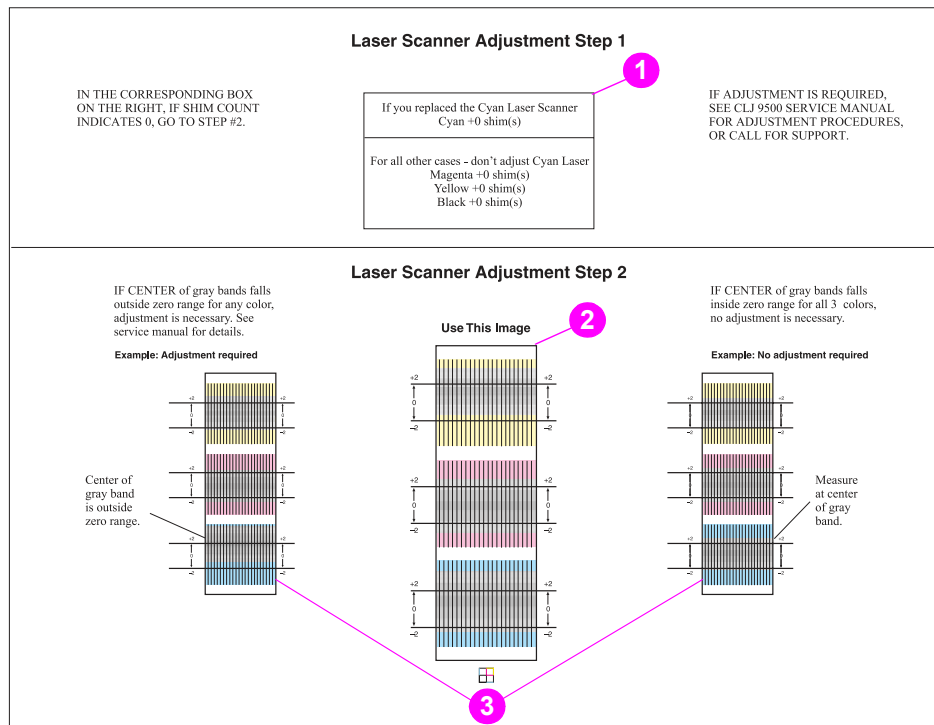

Figure 127. Reading the laser/scanner adjustment page
- 1 Look at the laser/scanner adjustment page. If the numbers under the *Laser/Scanner Adjustment Step 1* are all zeros (callout 1; figure 127) and the center of the three gray bands under the *Laser Scanner Adjustment Step 2* are inside of the zero range for all three colors (callout 2; figure 127), then no adjustment is required and this procedure is complete.
The laser/scanner adjustment page has examples to help interpret the position of the gray bands (callout 3; figure 127). An example of “Adjustment required” is located on the left side of the page. An example of “No adjustment required” is located on the right side of the page.